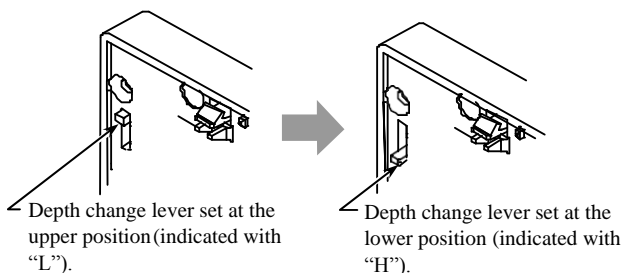

Figure 17. Depth change: Lowering the depth change lever
- 5) Set the depth change levers on the bilateral sides of the Neosensor main unit to the upper position (indicated with "L" shown in Fig. 17).
- 6) Set the depth change levers on the bilateral sides of the Neosensor main unit to the upper position (indicated with "L" shown in Fig. 17).